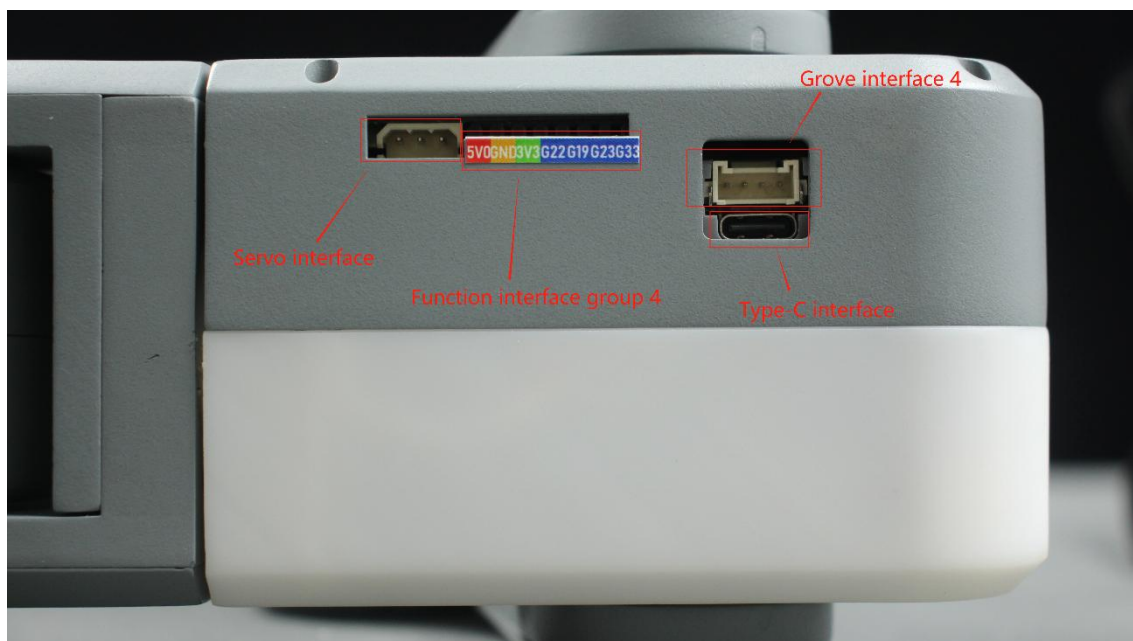

Figure 2-1 End of the robotic arm
A. The side interface of the end of the robot arm is shown in Figure 2-1: